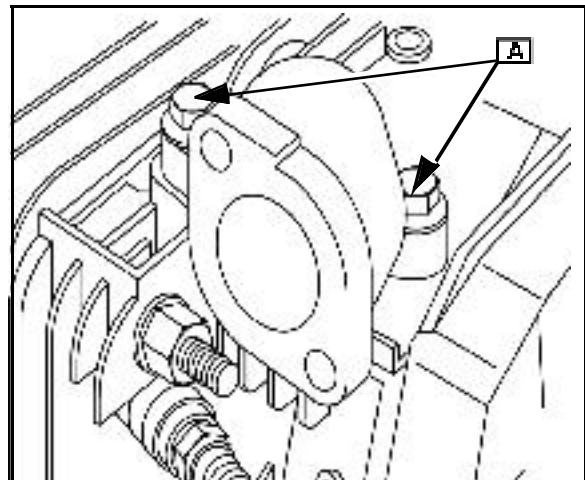

Fig. 9
6. Remove the screws ([A] Fig. 9) holding the exhaust elbow and set elbow aside.